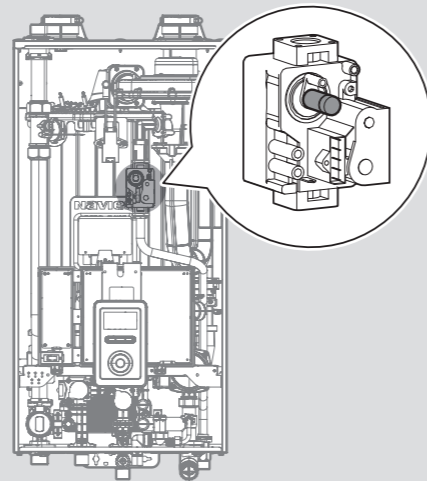

Figure 7. Set Screw Location
- Activate multiple zones and set the boiler to operate at 1-stage MIN mode. Measure the CO₂ value at low fire. If the CO₂ value is not within 0.5% of the value listed in Table 2, the gas valve set screw will need to be adjusted. If adjustment is necessary, locate the set screw as shown in Figure 7. Using a ⁵/₃₂ in or 4 mm Allen wrench, turn the set screw no more than ¹/₄ turn clockwise to raise or counterclockwise to lower the CO₂ value.